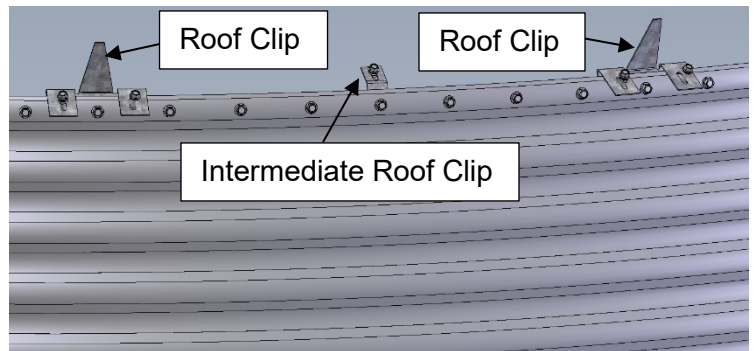

Figure 4-17: Roof Hardware
2. Install roof clips (#12398) at every 8th hole in top ring. Install three #12328 intermediate roof clips in every other hole between all regular roof clips. Plug all remaining holes with 3/8" x 1" hex bolts w/neoprene washers. See Fig. 4-17.